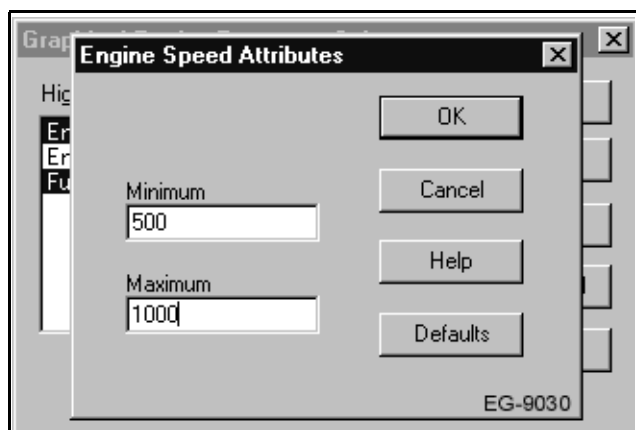

Figure 184 Modified Engine Speed Attributes
9. Modify **Engine Speed Attributes**. Enter 500 for minimum value and 1000 for maximum value. Select **OK** (See Figure 184, page 376).